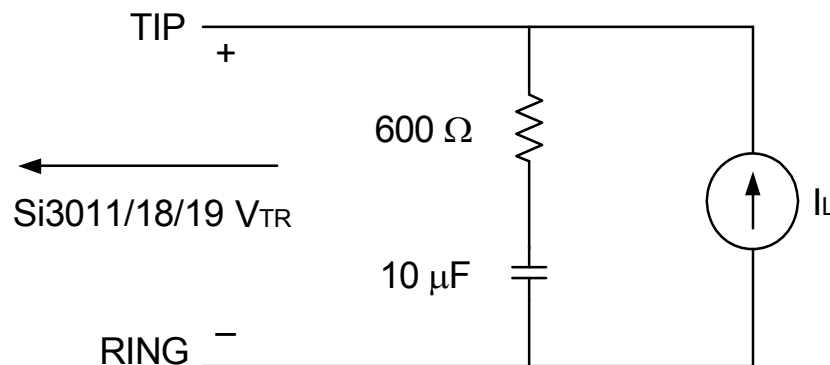

Figure 1. Test Circuit for Loop Characteristics
($V_D = 3.0$ to 3.6 V, $T_A = 0$ to 70 °C, see Figure 1 on page 6)
1. Measured at TIP and RING with 600Ω termination at 1 kHz, as shown in Figure 1 on page 6.
1. Measured at TIP and RING with $600\ \Omega$ termination at 1 kHz, as shown in Figure 1 on page 6.